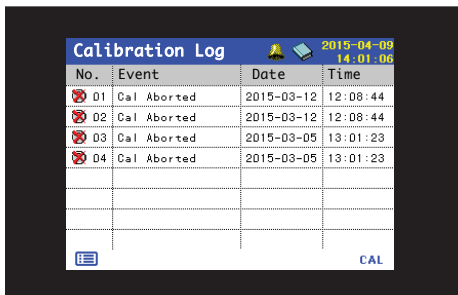

Fig. 8.12 Calibration Log page
- *Calibration Log* (Fig. 8.12): a history of calibration routines